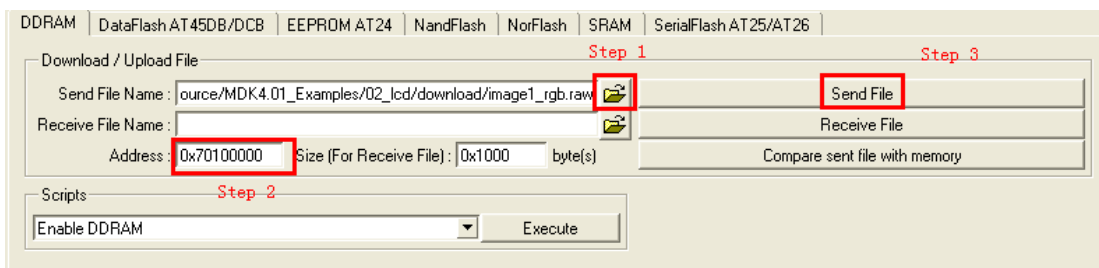

Figure 3-19
(2) Download first picture into address: 0x70100000. Refer to figure 3-19: